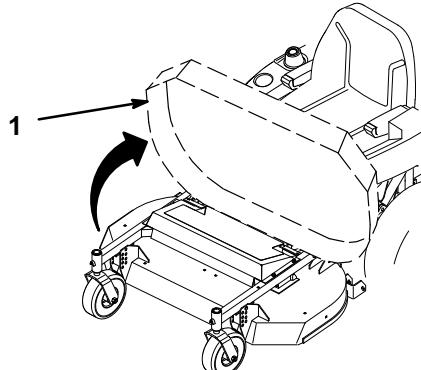

Figure 18
4. Standing in front of the mower, lift up and push rearward on front to raise mower (Fig. 18).
2. Standing in front of the mower, pull forward on front and lower mower (Fig. 18).